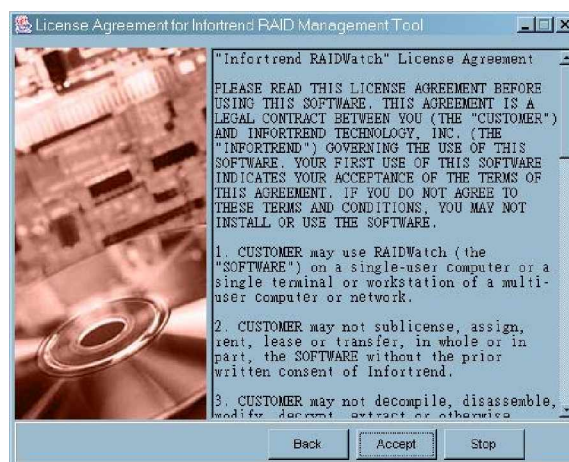
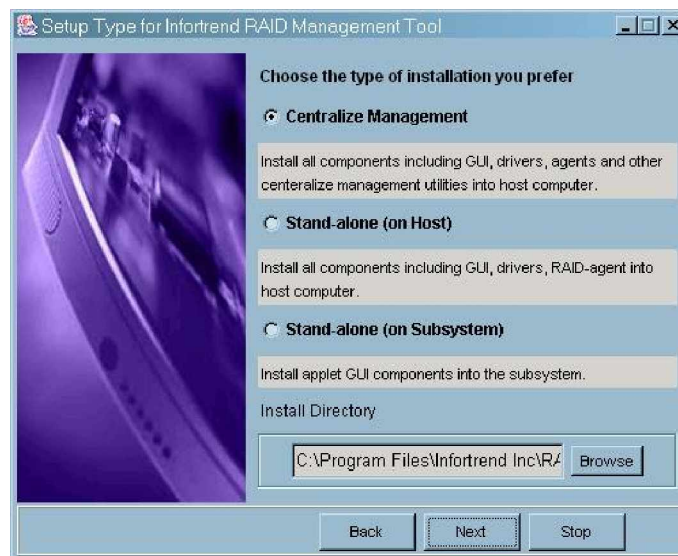

Figure 2-4: License Agreement
Figure 2-5: Installation Options
Step 7. If you selected the “Next” button on *Figure 2-3*, the License Agreement window seen in *Figure 2-4* will appear. First read through the License Agreement. If you are in agreement with the specified terms and wish to continue installing the StorageWatch program, select “Accept.” If you do not wish to continue with the installation process then select the “Stop” button.
Step 8. If you accepted the License Agreement in *Figure 2-4*, a new window with three installation options will appear. These options, shown in *Figure 2-5*, are *Centralized Management*, *Stand-alone (on Host)*, and *Stand-alone (on Subsystem)*.